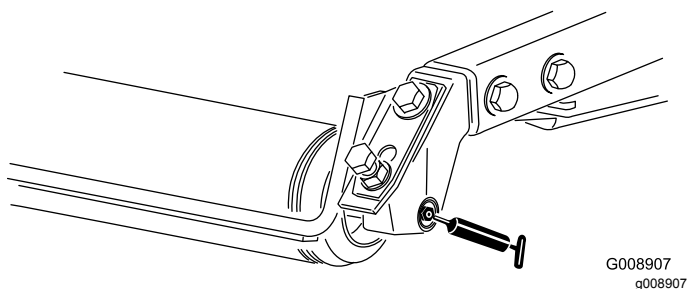

Figure 56
- Rear roller bearings (2 per cutting unit) (Figure 56)